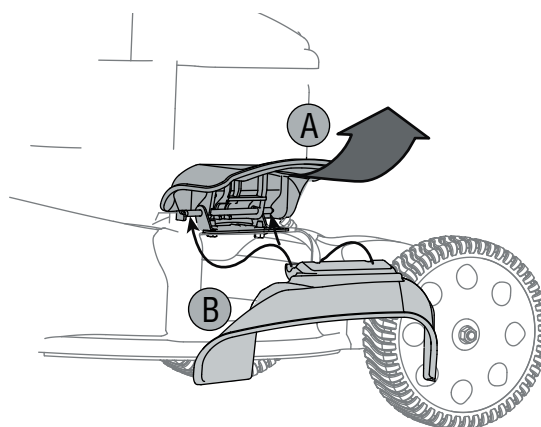

Figure 11 - Optional Feature
- a. On the side of the mower deck, lift the hinged mulching plug. See Figure 11.